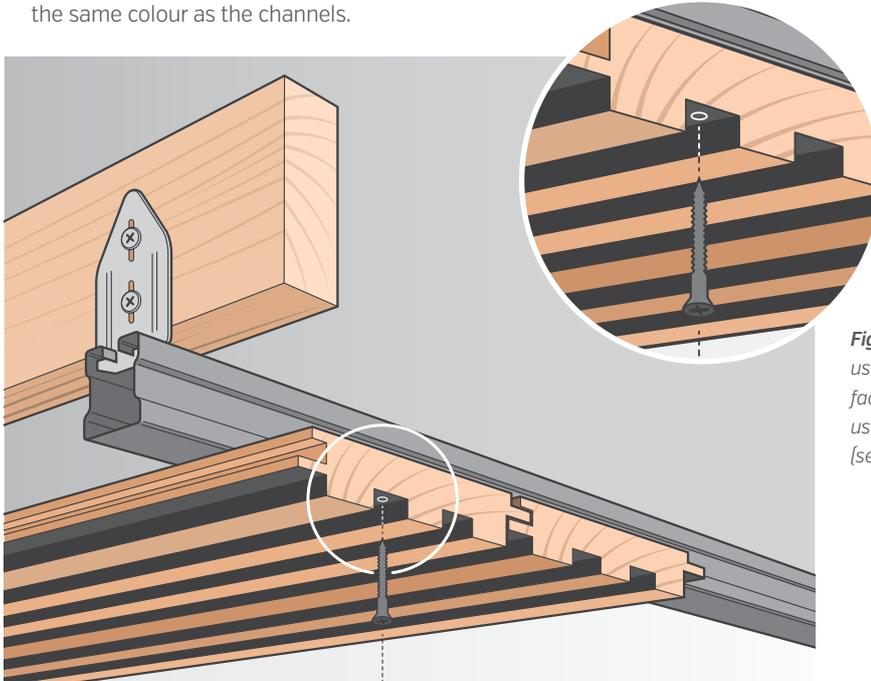

Figure 3: Panelling installation using metal track system and face fix: face screw directly using a coloured head screw [see Figure 4].
- **Castelation® panelling with channels**, can be screwed through the channel to the metal track. One screw per board, per track is sufficient [see Figure 3]. This works particularly well with the Castelation® TwoTone product as the screw heads can be painted the same colour as the channels.